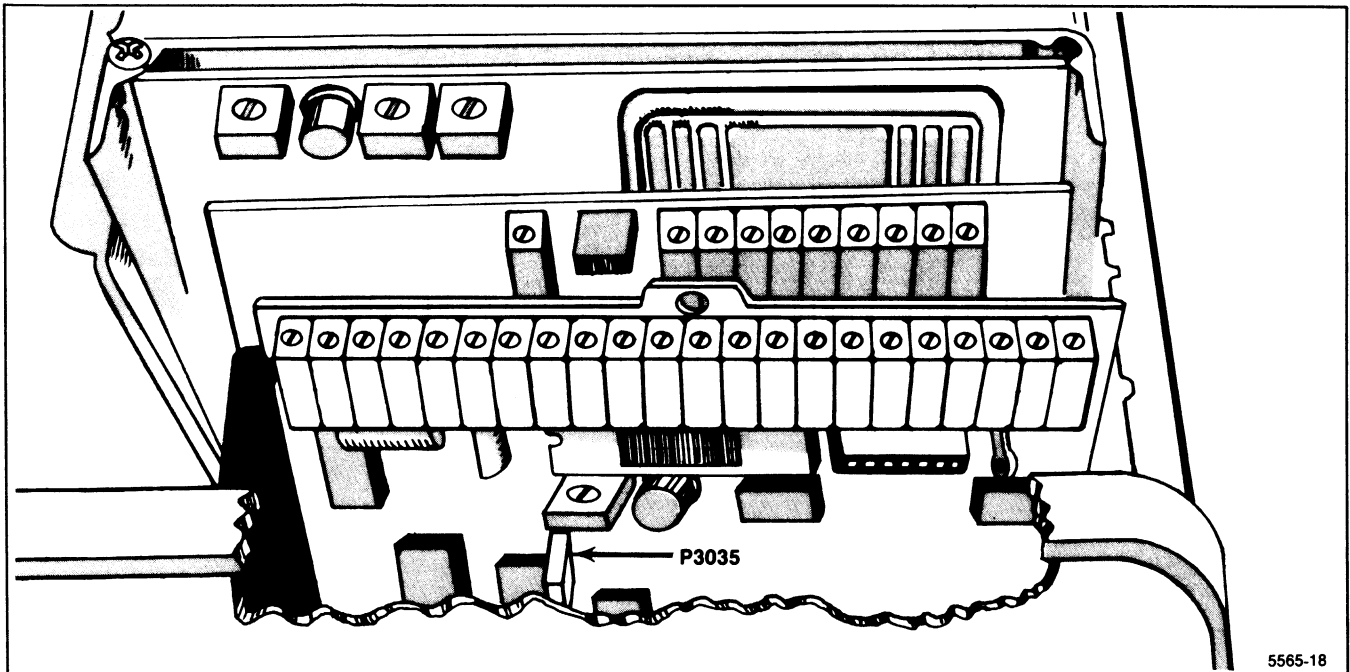

Figure 5-13. P3035 on the Video Processor board.
a. Set the Log Amplifier correction factors to zero by pressing <SHIFT> 0 (DIAGNOSTIC FUNCTIONS) and selecting item 5 (INTERNAL MEASUREMENT RESULTS), then item 2 (SET RESULTS TO "UNCALD"). Remove Leveler Disable plug P3035 on the Video Processor board (Figure 5-13).